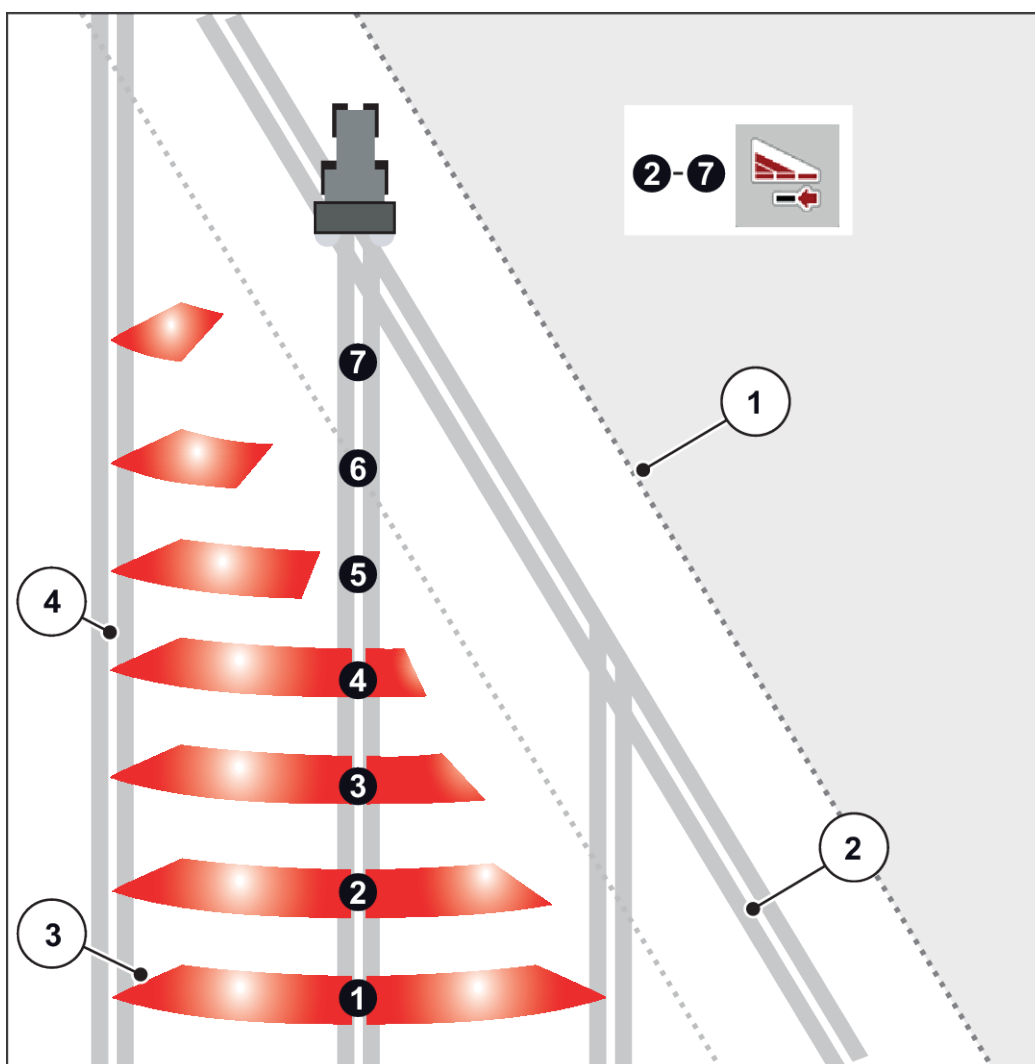

Fig. 46: Automatic section control
- Section control is possible from the outside to the inside or vice versa. See Fig. 46 Automatic section control.